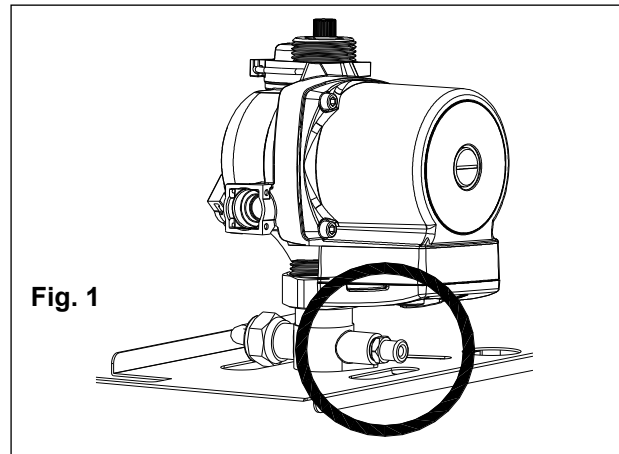

Fig. 1
- Open the system drain valve (fig. 1).
- **If only the boiler needs to be drained, close the flow/return isolating valves on the heating circuit and open the drain valve R located at the bottom of the boiler on the pump manifold (see fig. 1);**